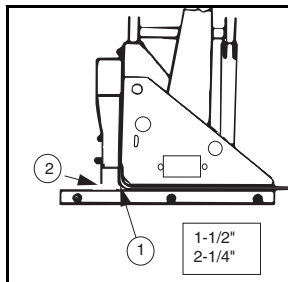

Figure 75.
- 3) Take level or straight edge and place in position [1], Figure 75, against bottom of main screed.
- 4) Adjust match height [2], Figure 75, until screeding blade is at correct adjustment. A preliminary setting of 1/4" above main screed bottom gives good results in most materials.